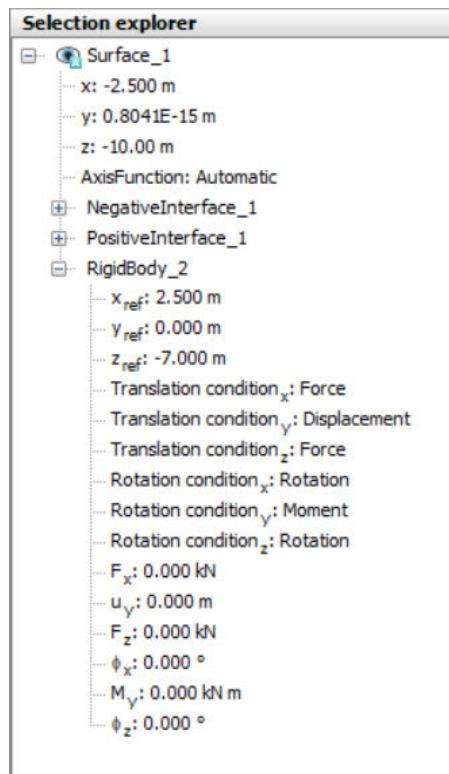

Figure 46: Rigid body in the Selection explorer
16. As displayed in Figure 46 (on page 68) set the Translation condition_y to **Displacement**, the Rotation condition_x and Rotation condition_z to **Rotation**. Their corresponding values are $u_y = \phi_x = \phi_z = 0$.